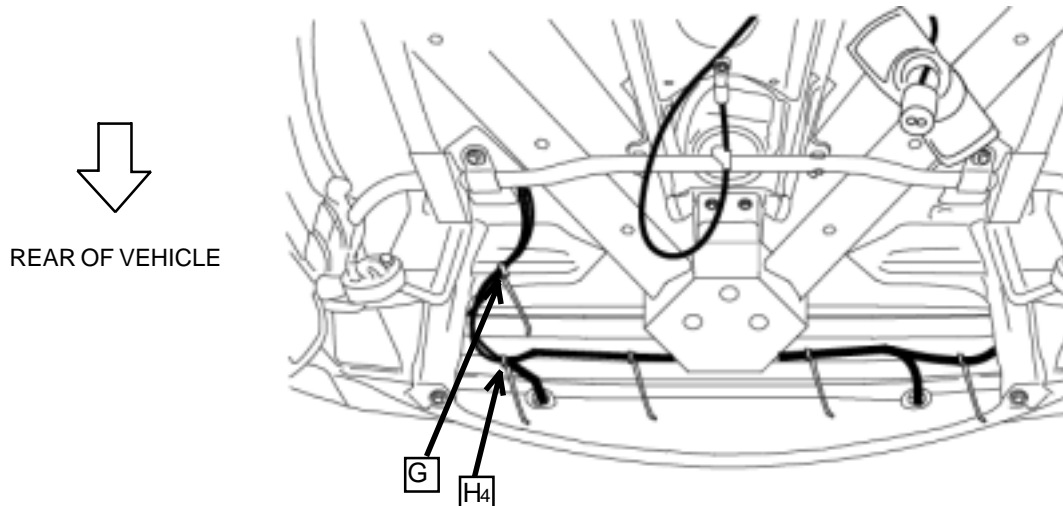

Figure 12.
- 7.) Insert the last christmas tree tie **H4** as shown below. While removing cable slack, route the sensor cables marked "L," "CL" & "CR" and fasten them using the christmas tree tie just installed "H4" (see Figure 12.).
- 8.) While removing cable slack, route the sensor cable marked "R" and group it with the three sensor cables ("L," "CL" & "CR") and use one cable tie **G** to group all four sensor cables together as shown in Figure 12.